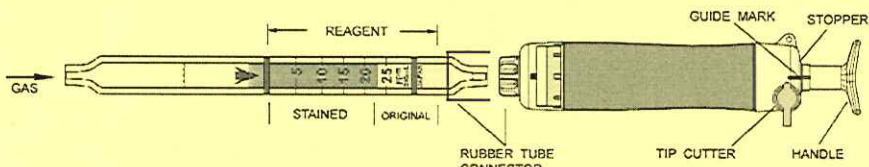

Fig.1
- ② Insert the detector tube into the aspirating pump securely as shown in Fig.1. (Arrow mark shall point to the pump.)
- ③ Align the guide marks on the shaft and stopper of the aspirating pump.
- ④ Pull the pump handle at a full stroke until it locks and wait for 1 minute or until the completion of sampling is confirmed with the flow indicator of the pump. (See descriptions about the flow indicator in the instruction manual of the pump.)
- ⑤ Push back the handle without removing the detector tube from the rubber tube connector so that air in the pump will be discharged perfectly. Then repeat the step ③~④ fourth more.
- ⑥ On completion of sampling, read the scale at the maximum point of the stained layer.
- ① Temperature; No correction is necessary.
- ② Humidity; No correction is necessary.